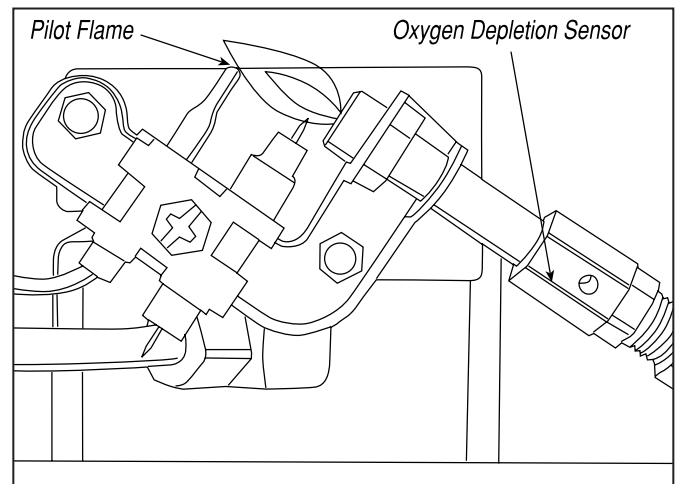

Figure 2
Visually inspect the pilot flame and burner periodically during use. The pilot flame should be blue in color (not yellow) and will extend beyond the thermocouple. The flame will surround the thermocouple just below the tip, see Figure 2. A slight yellow flame may occur where the pilot flame and main burner flame meet. The burner(s) should be bright orange (with a slight blue color around the border, a red-orange haze that is visible on the ceramic tile is acceptable) and without a noticeable flame.
- 6 Remove (3) screws attaching lower baffle to expose burner air openings.
- 9 Inspect and clean pilot (mounted to bracket) by using a vacuum or apply air pressure through the holes in the pilot indicated by the arrows in Figure 2.
- 11 Reinstall lower baffle with (3) screws
- 12 Slide back cover over (2) plastic hooks on top of heater. Make sure rear cover aligns with plastic side covers. Install (4) screws to hold in place.